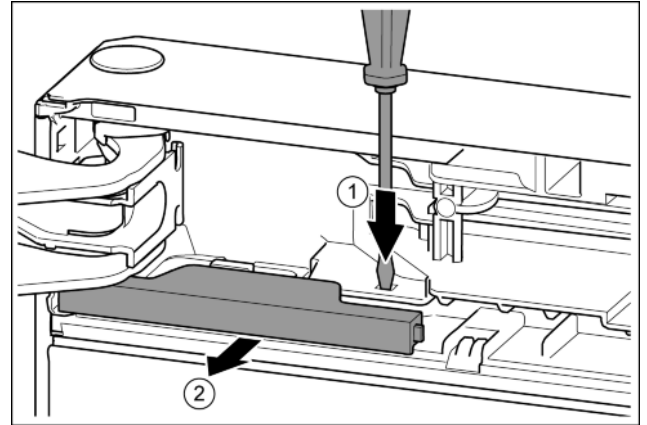

Fig. 9
- ▶ Press the tab with the slotted screwdriver. *Fig. 9 (1)*
- ▶ Pull cover out of the catch mechanism. *Fig. 9 (2)*